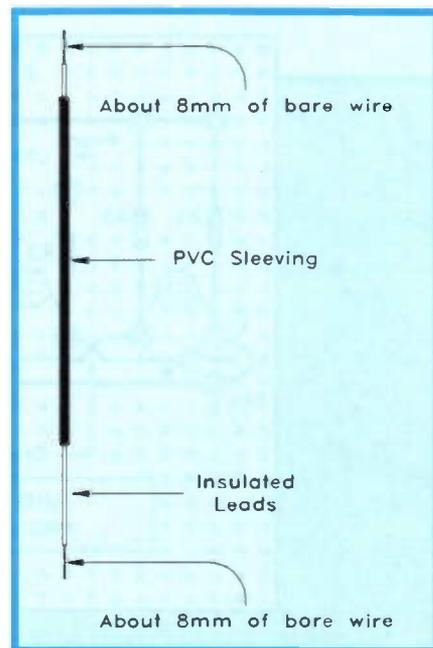

Figure 6. Preparing the probes.
g) The probe is made up from a piece of insulated multi-strand wire (coloured red) and a piece of hollow insulated sleeving (also coloured red). The probe should be made up as shown in Figure 6, use wire strippers to remove the insulation where shown. Again, the bare ends of the lead should be twisted together to prevent the wires from splaying apart. Slide the red sleeving over the red wire, and then connect it to the screw on the board marked 'Probe' – this screw can be found at the free end of R3. The free end of the wire is pressed against one of the relevant screws